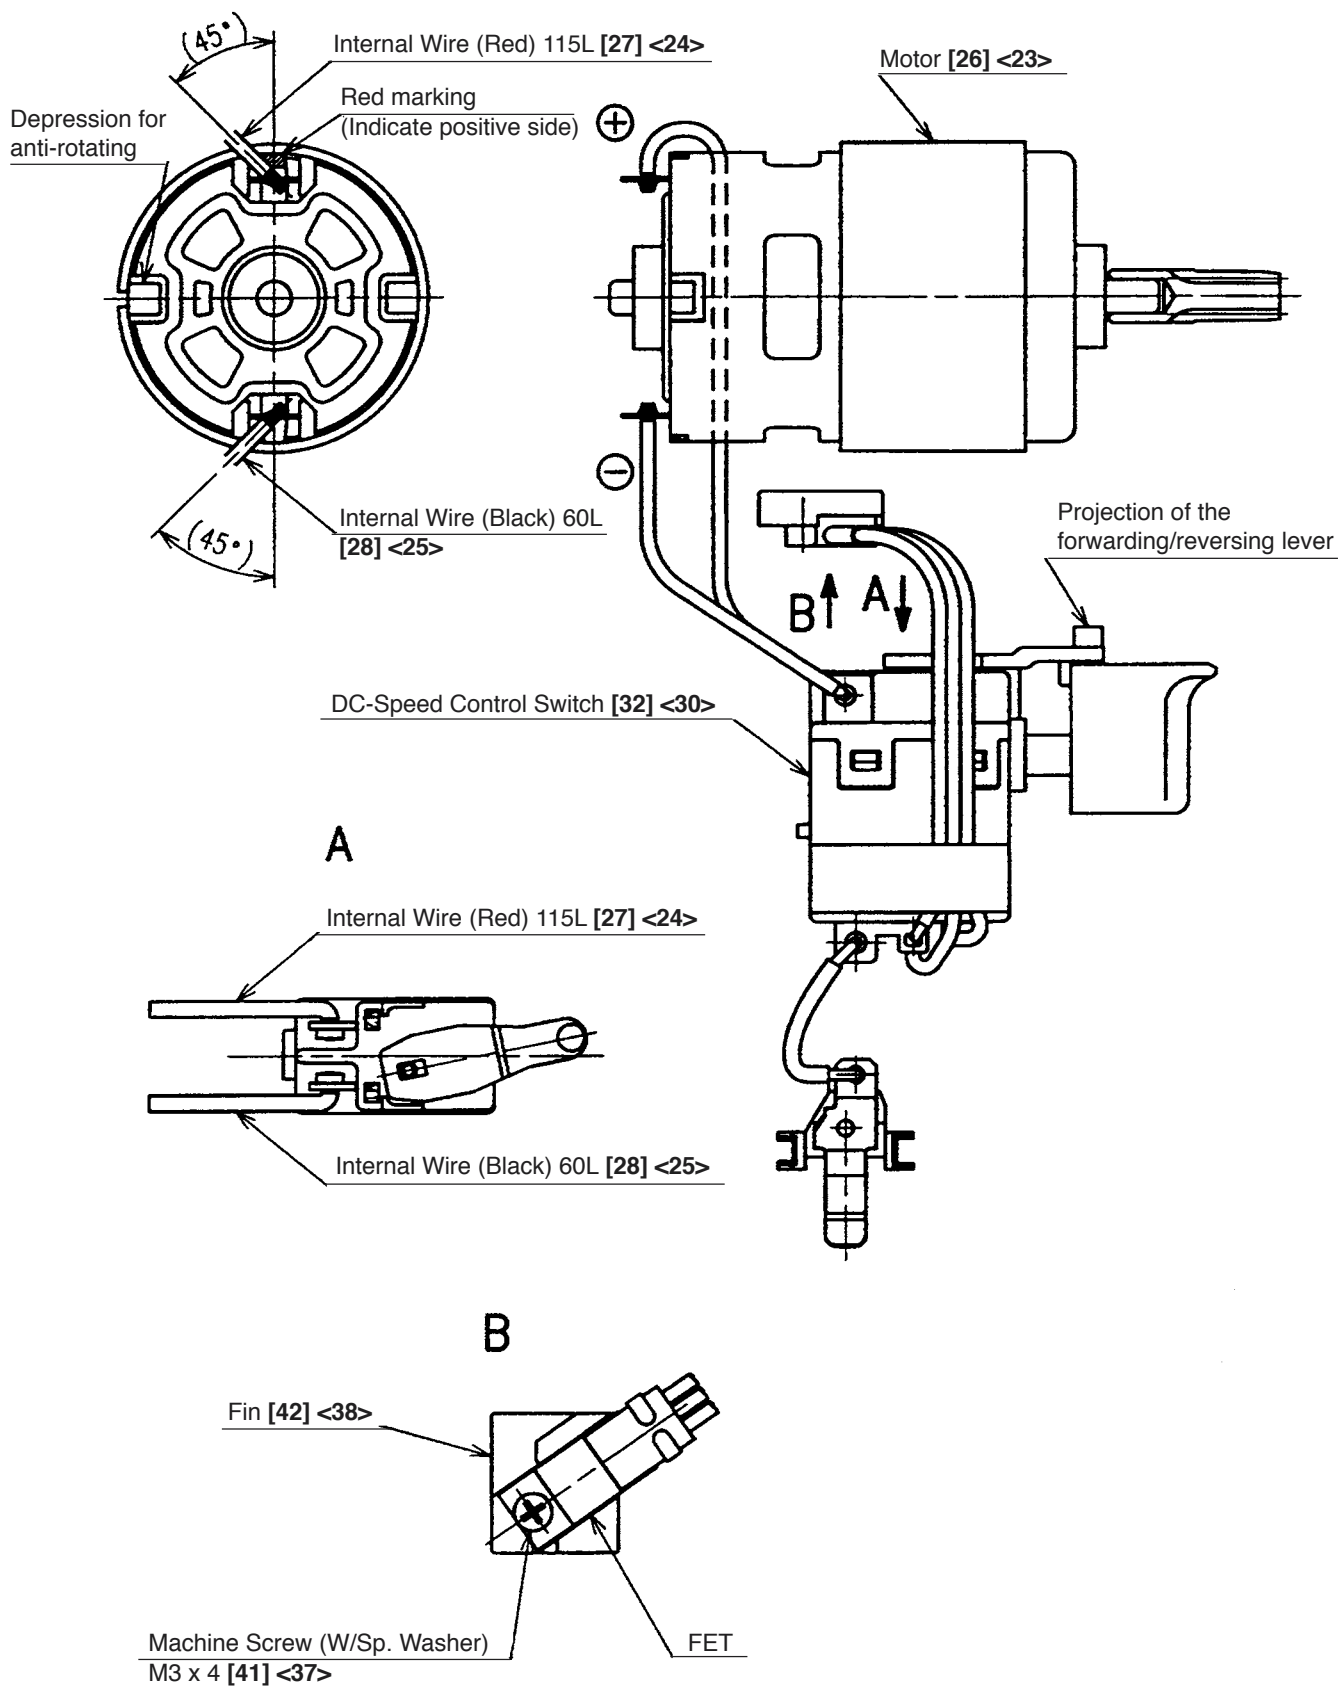

Fig. 10
(1) Reassembly of housing (A) assembly
- (a) Be sure to follow the wiring diagram (Fig. 10) for proper wiring.
- (c) When mounting the Motor [26] <23> into housing (A), pay attention to the position of the Internal Wire (Red) 115L [27] <24> and the depression for preventing motor body from rotating in housing (A).